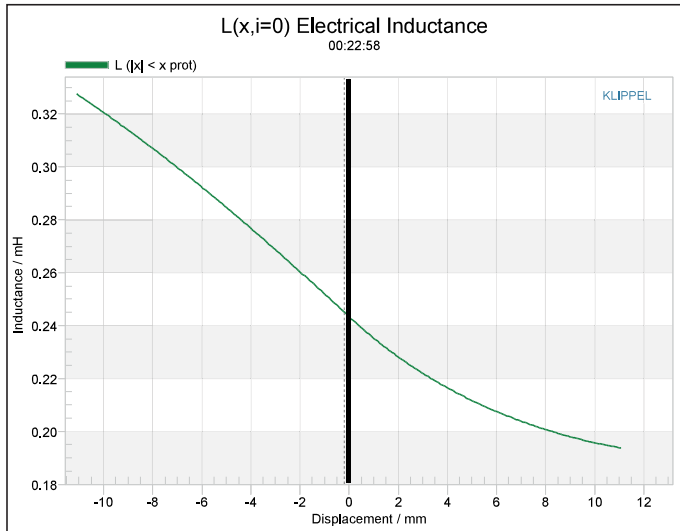

Figure 9: Klippel Analyzer L(X) curve for the Scan-Speak Ellipticor 38WE/8582T00 woofer
Figure 9 gives the inductance curves Le(X) for the 38WE/8582T00. Inductance will typically increase in the rear direction from the zero rest position as the voice coil covers more pole area, which is what you see here. However, because of the effective use of copper shorting rings (Faraday shields) in the Scan-Speak SD AirCirc motor, the inductive swing from Xmax in to Xmax out is a very small 0.13mH, which is very good inductive performance.